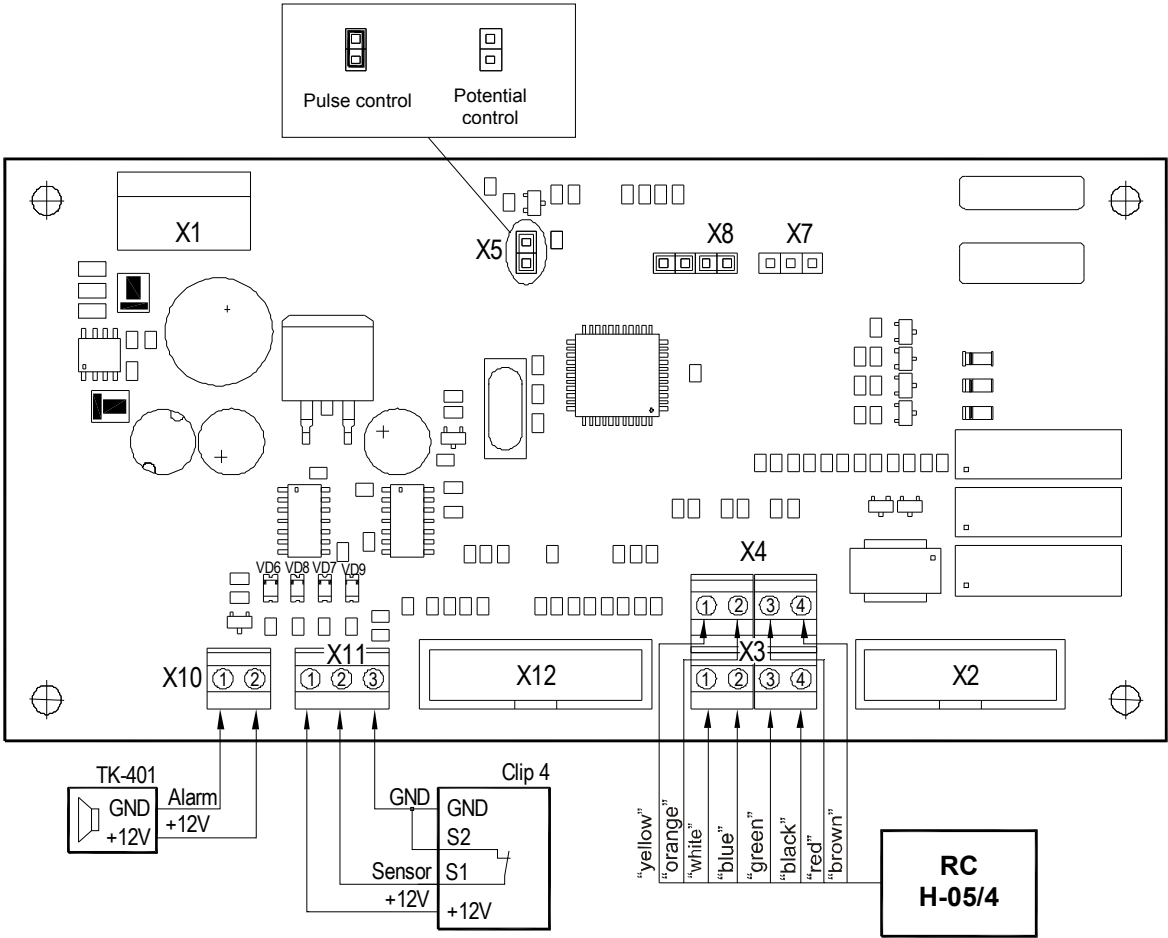

Fig. 8. Processor module
8.3.10. Connect the cables 10, 11, 13 to the control unit (8) as follows:
- control cable (10) to the **“Control”** connector;
- power cable (11) to the **“DC=24V”** connector;
- put remote control cable (13) through its cable inlet inside the control unit and connect it to the X3 and X4 connectors on the processor module as per Fig. 8 of Appendix 1 and Fig 10 of Appendix 2.
- Disconnect the power cable (12) from the mains;
- Swap positions of the following RC cables inside the control unit, on the connectors X3 and X4 of the processor module (Fig. 8, Appendix 1 and Fig. 9, Appendix — white with green and yellow with red cable, that is connect the cables as follows: